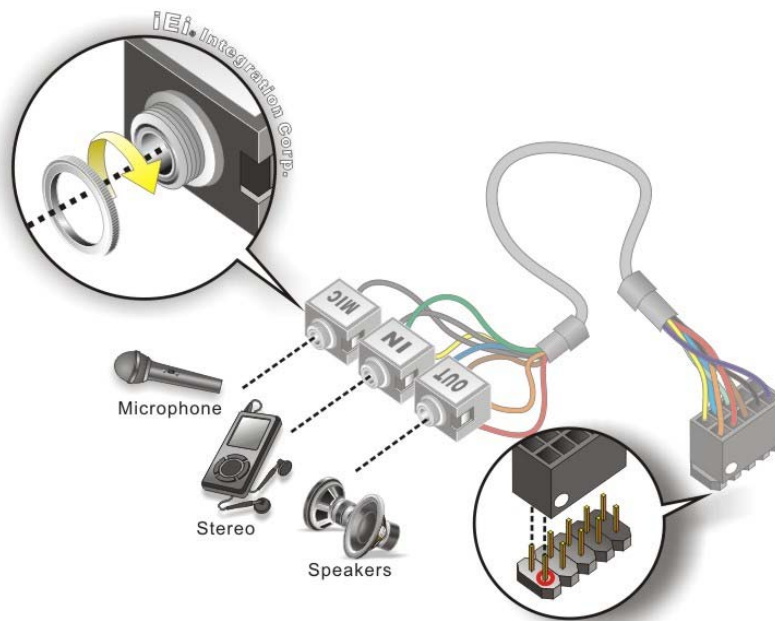

Figure 4-9: Audio Kit Cable Connection
Step 2: **Align pin 1.** Align pin 1 on the on-board connector with pin 1 on the audio kit connector. Pin 1 on the audio kit connector is indicated with a white dot. See **Figure 4-9**.